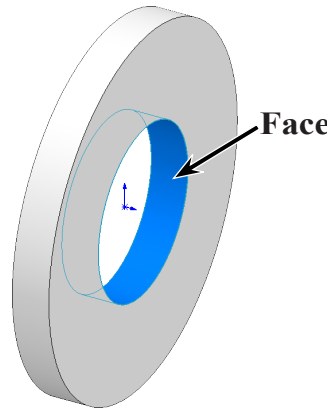

Fig. 5
Step 1. Click a cylindrical face to select it, Fig. 5.